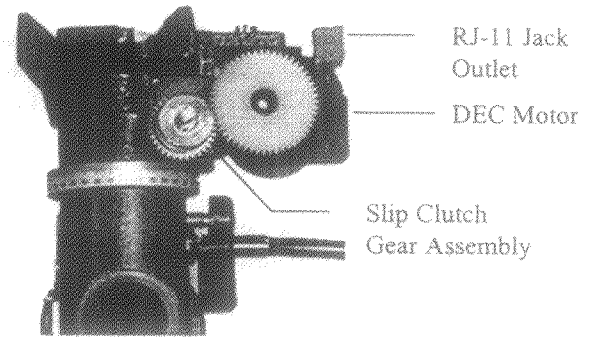

Figure 3
3. Place the portion of the motor bracket with the threaded hole just below the square extrusion on the side of the telescope mounting platform. (See Figure 3). (NOTE: some older models may not have the square extrusion on the mounting platform. If not, contact Celestron technical support for upgrade options).